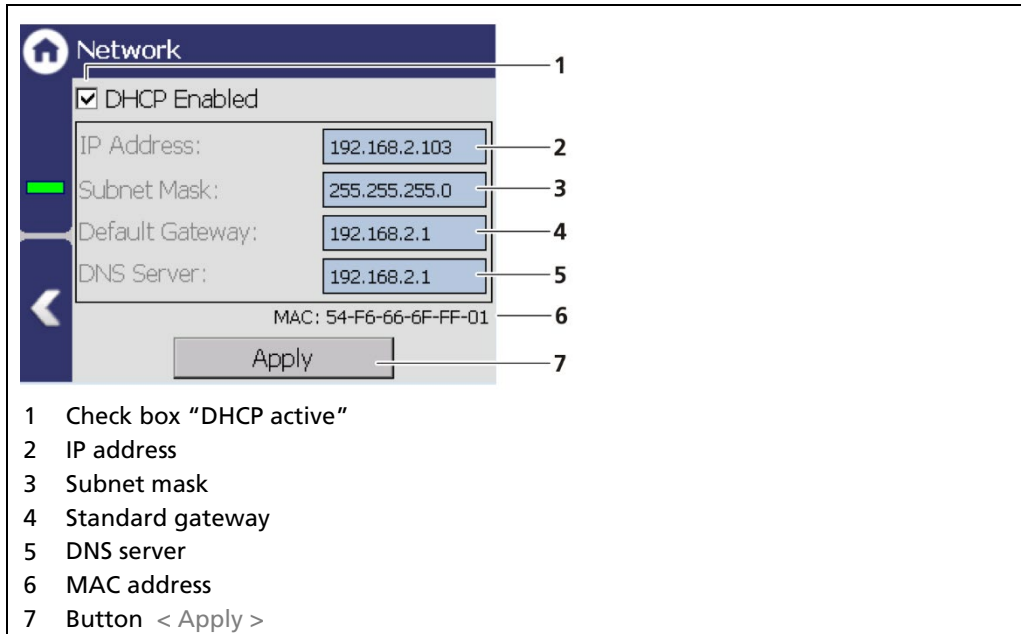

Fig. 48 Network Settings
You can set the network address either manually or using DHCP (automatic assignment). To do this, check the "DHCP active" in the selection field (Fig. 48, item 1).
In the event of an automatic assignment of the IP address by a DHCP server, you can only look at the given IP address. A modification of the IP address is not possible. On this side, you can also read the MAC address of the device (Fig. 48, item 6).
1. Click on the text field (Fig. 48, item 2 - 5) to open the input field.
4. Click on < Apply > (Fig. 48, item 7) to adopt the network settings.
The IP address of the EVU must be in the same sub-network (Fig. 48, item 3) as the network adapter of the computer (see previous Chapter "Network").